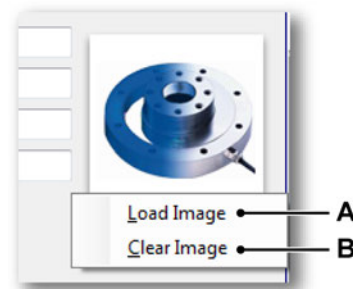

Figure 2.23: Sensor Database sheet image loading and clearing
- G** Image preview (see Figure 2.23)